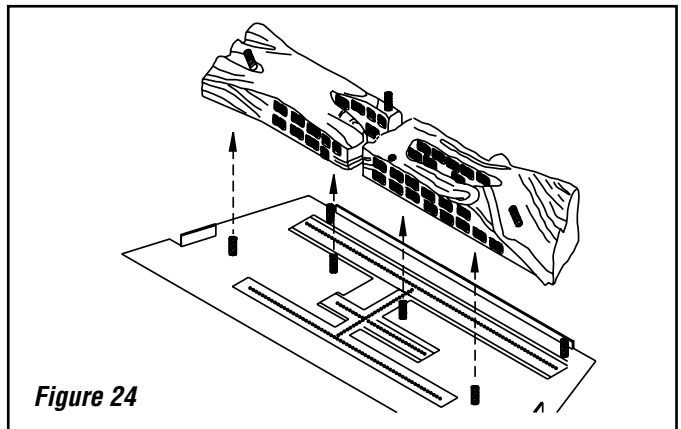

Figure 24
3. Rotate the right front log (3018 is cast into its bottom surface) so the charred black surface is toward the front. Place this log so the two holes in its bottom surface slide onto the two pegs on the right side of the air control panel. See **Figure 24**.